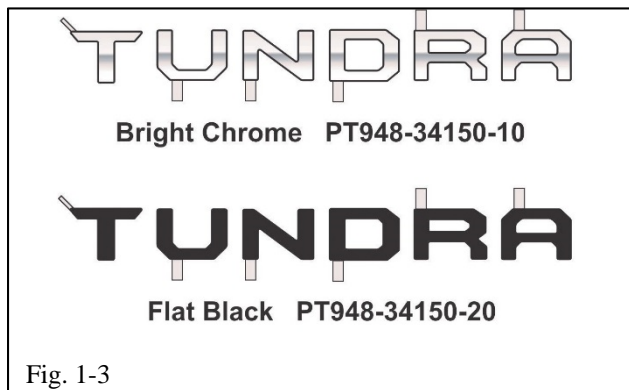

Fig. 1-3
- ⚠ (f) Inspect the kit for complete contents and any damage (Fig. 1-3).